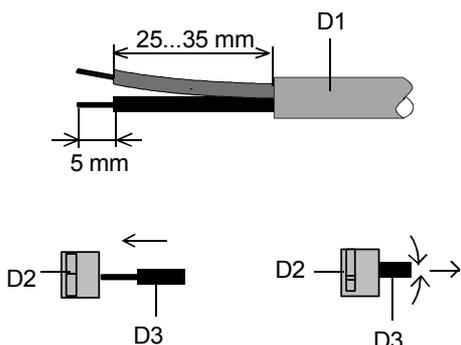

Figure 4: Mounting and dismantling a DIN-rail device
Connecting bus cables (Figure 4)
- Press the sheathing of the cut-off insulation bus line (figure 4) projecting >3mm into the open clamping slot (C4). If a further bus line shall be connected break out the closed clamping slot with a screw-driver and press it into the clamping slot as described above. Press the single bus wires into the recess below the bus terminal block and snap on the cover (C1).
Disconnect bus lines (Figure 4)